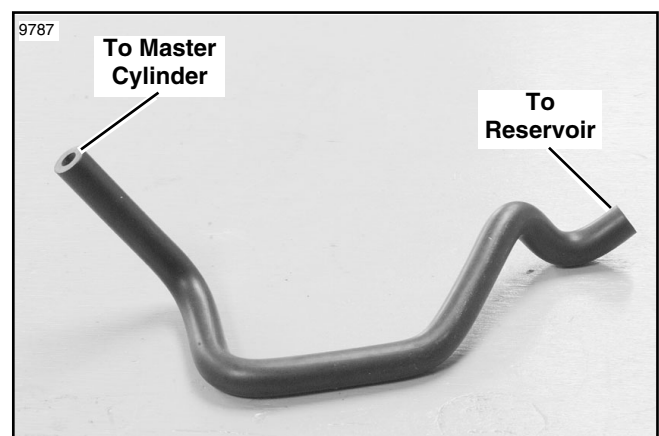
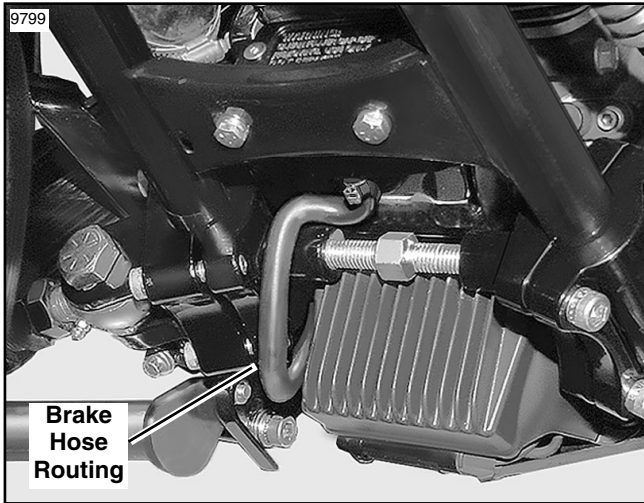
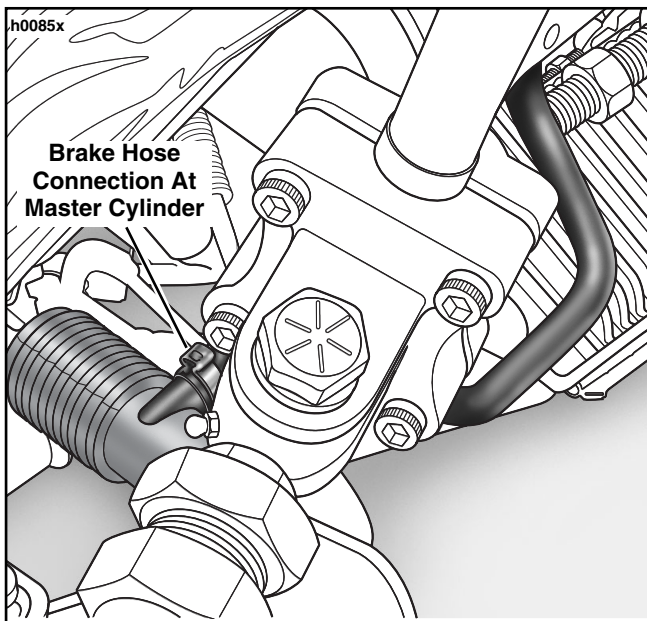

Figure 17. Reservoir-To-Master Cylinder Hose
Figure 18. Routing Brake Reservoir Hose
Figure 19. Brake Reservoir Hose At Master Cylinder
2. See Service Parts Illustration and Figure 17. Obtain Hose (44) and two Hose Clamps (36) from kit. See Figure 18. Route hose from master cylinder reservoir over stabilizer then back down under lower right front mount. See Figure 19 for routing at master cylinder.
3. Install hose clamps as shown in Figures 18 and 19.